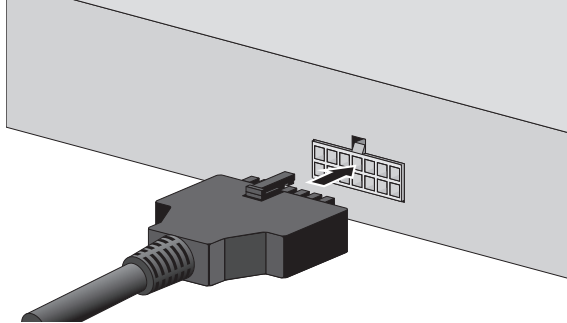

Figure 24. Connecting the RPS DC Cable
4. If you installed an optional redundant power supply unit, connect one end of the DC power cord included with the RPS unit to the back panel of the redundant power supply and the other end to the RPS connector on the back panel of the switch, as shown in Figure 24.